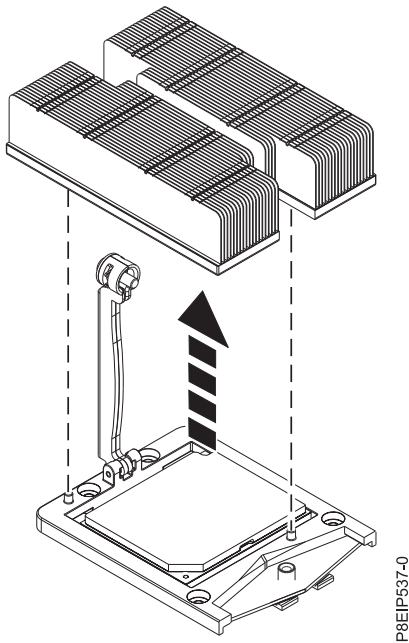

Figure 49. Removing the heat sink
5. Grip the heat sink and remove it by lifting straight up as shown in Figure 49.